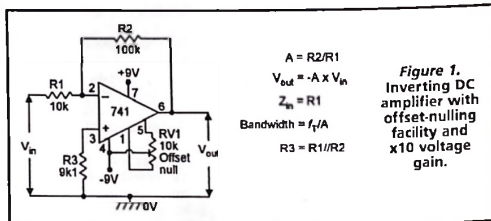
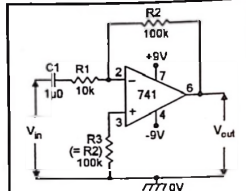

Figure 1. Inverting DC amplifier with offset-nulling facility and x10 voltage gain.
Figure 2. Inverting AC amplifier with x10 gain.
Figure 1 shows the practical circuit of an inverting DC amplifier
Note that the Figure 1 circuit will continue to function if the RV1 offset-nulling network is removed, but its output may be offset by an amount equal to the op-amp's input offset voltage (typically 1mV in a 741) multiplied by the closed-loop voltage gain (A) of the circuit, e.g., if the circuit has a gain of x100, the output may be offset by 100mV with zero input applied.
Also note that the circuit's bandwidth equals the  $f_t$  value (typically 1MHz in a 741) divided by the 'A' value, e.g., the Figure 1 circuit gives a bandwidth of 100kHz with a gain of x10, or 10kHz with a gain of x100.
The Figure 1 circuit can be adapted for use as an AC amplifier by simply wiring a blocking capacitor in series with the input terminal, as shown in Figure 2. Note in this case that no offset nulling facility is needed, and that (for optimum biasing) R3 is given a value equal to R2.